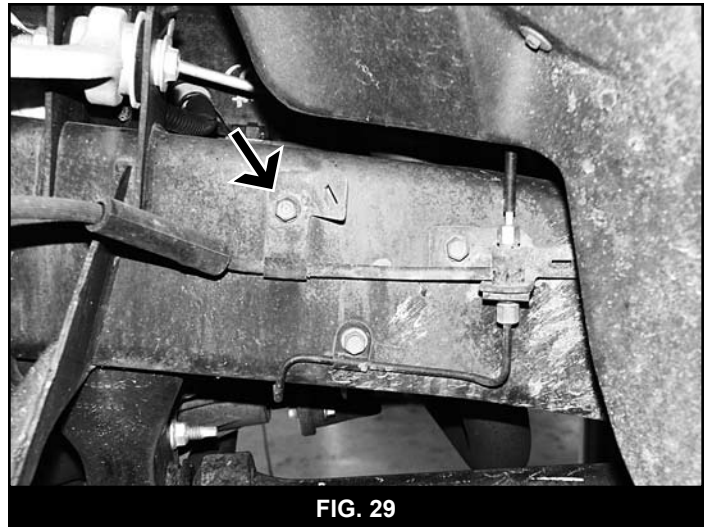
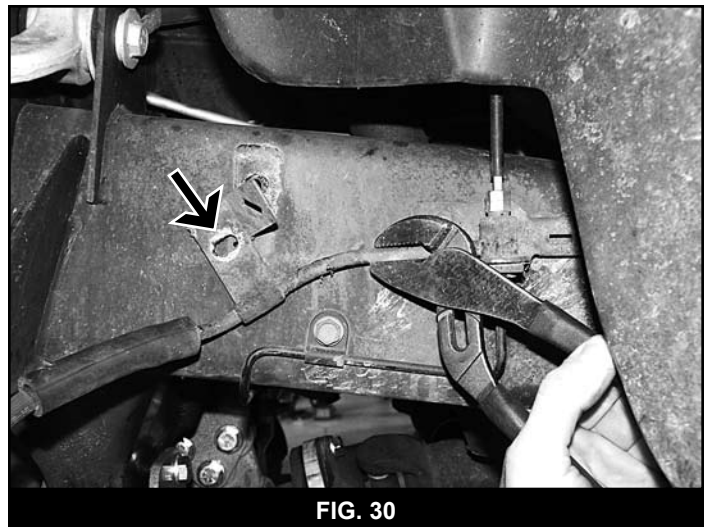

FIG. 29
FIG. 30
59. Driver's side brake line: Remove the bolt retaining the line bracket to the frame (Fig 29). Support the hard leader with pliers and carefully bend the line down approximately 30° (Fig 30). Mark and drill the new mounting location on the frame with a 17/64" drill. Fasten the bracket with the provided 5/16" x 1-1/4" self-tapping bolt (BP #618).